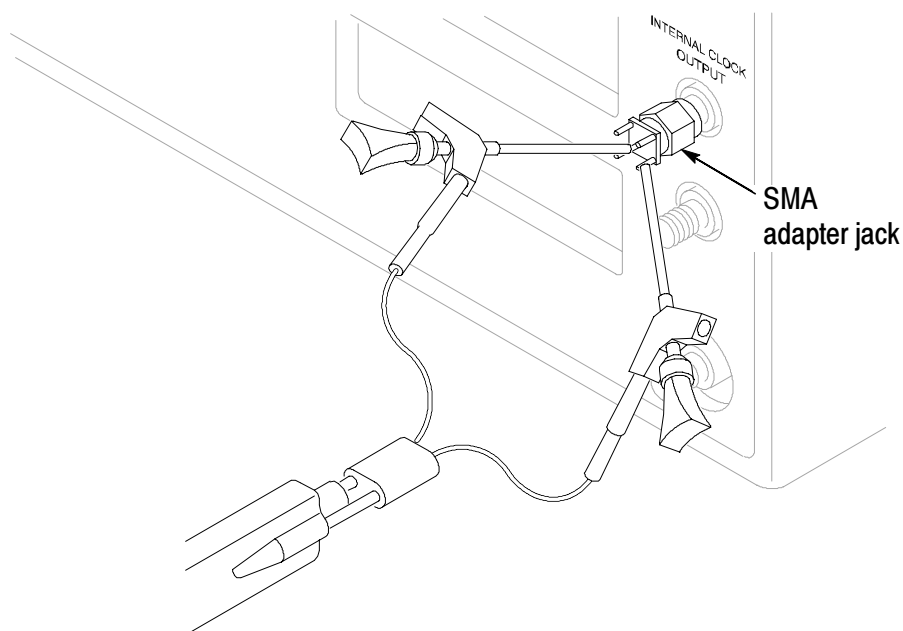

Figure 2: Probe functional check connections
After installing the probe on the CSA/TDS8000 oscilloscope, a functional check may be performed using the INTERNAL CLOCK OUTPUT connection on the front panel of the oscilloscope. See Figure 2.
2. Using the Y-lead connector, SMT KlipChips and the SMA adapter jack accessories, connect the probe to the INTERNAL CLOCK OUTPUT connection on the oscilloscope, as shown in Figure 2.